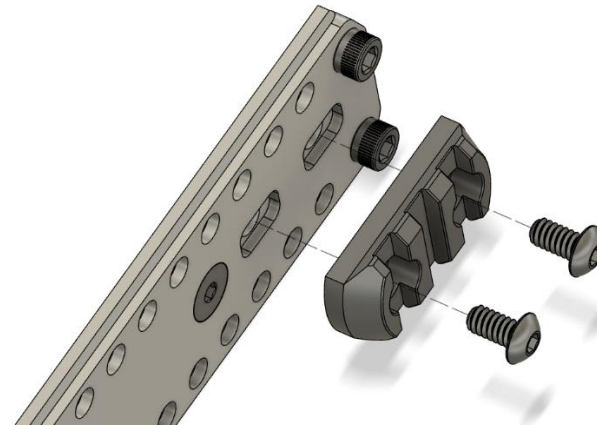

Figure 2. Application of M-Lok Picatinny section (not included) for traditional fixed Picatinny bipod mounting
4. If a fixed Picatinny (Mil-Std 1913/NATO STANAG 4694) bipod connection is desired, install a Magpul® MAG580 NSN: MAG580-BLK 1005-01-666-0502 (not included) or equivalent Picatinny section to the sockets near the front of the dovetail rail by threading 10-24 mounting screws directly into the threaded holes on the dovetail rail (omitting M-Lok® T-nuts for this application). See Figure 2. for layout. Use a screw length that will not protrude beyond the top side of the R1288 MRAD® Dovetail Rail and interfere with fit on the MRAD® forend.